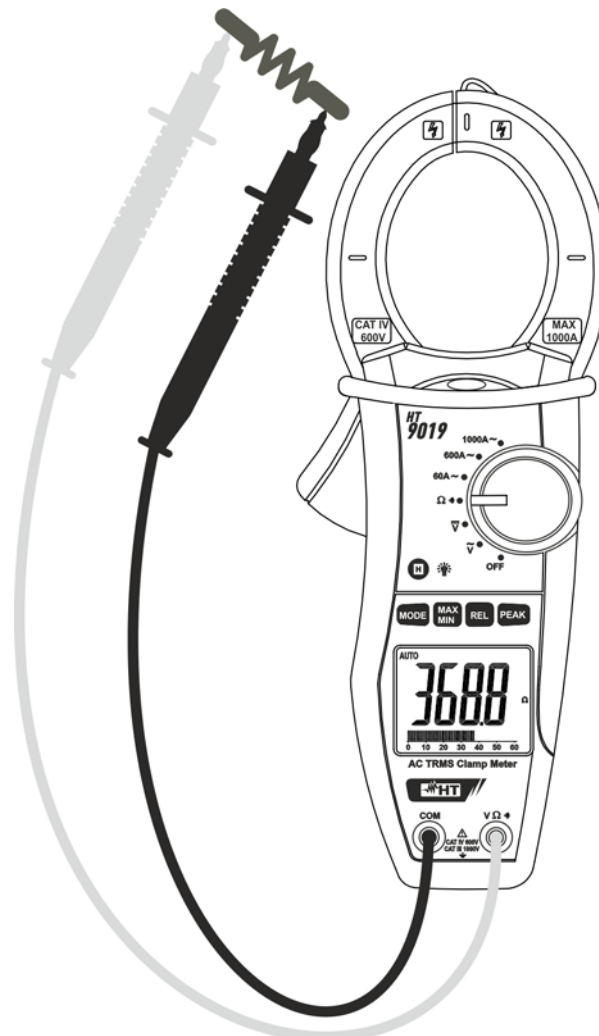

Fig. 5: Taking Resistance measurement and Continuity test
2. Insert the red test lead plug into  $V\Omega$  jack and the black test lead plug into **COM** jack (Fig. 5)